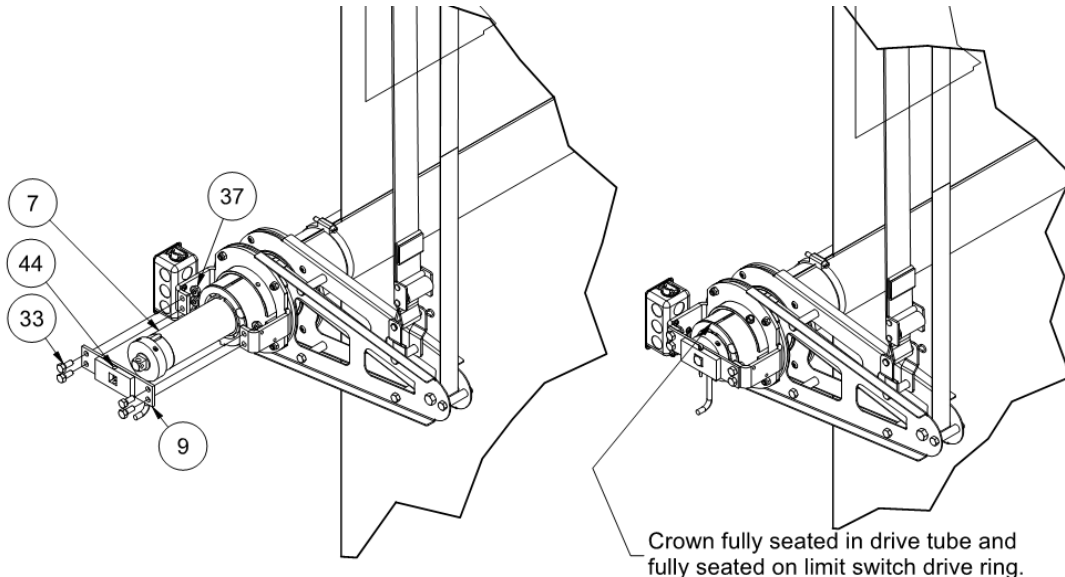

Figure 8
Refer to Figure 8 for the following steps
4. **Double Motor Curtains (fig 8):** Connect the motor drive plate (item 9) to the anti-torque arm using the four 5/16 x 3/4" bolts (Item 33) and 5/16" Wiz LockNuts (Item 37). NOTE:: Weight plates may need to be added to aid in the proper alignment of the Torque Arm during operation.